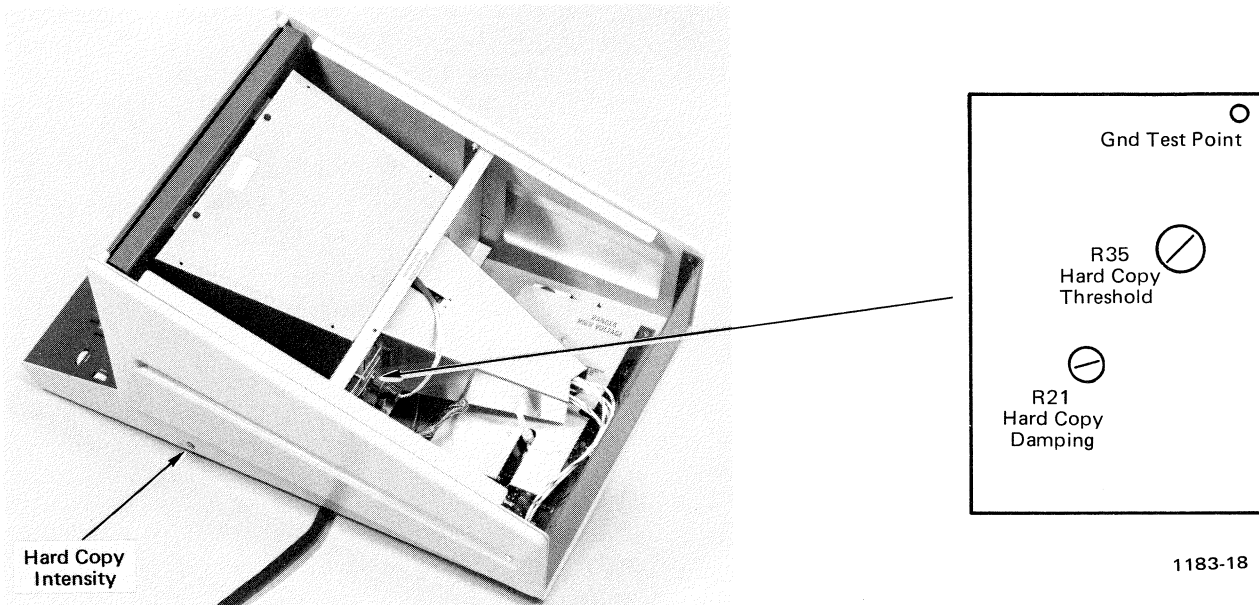
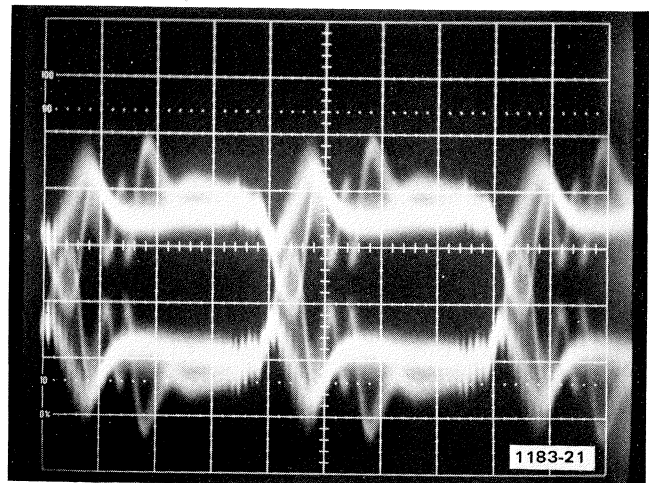

Fig. 4-13. Hard Copy Adjustment on Display Unit.
Fig. 4-16. Hard Copy Threshold Waveform; 0.2 V/division vertical, 0.5 V/division horizontal.
a. Turn the Hard Copy Intensity (side of Terminal display unit—Fig. 4-13) fully clockwise.
a. Set the test oscilloscope for 0.2 V/division and 0.5 μ s/division. Connect the channel 1 probe to TP32 on the Hard Copy TARSIG Amplifier board, attaching the probe ground lead to the ground test point (Fig. 4-13).
d. Preliminary adjustment. Adjust Hard Copy Damping (R21 on the Hard Copy TARSIG Amplifier board, Fig. 4-13) for maximum negative pulse amplitude with minimum ringing as in Fig. 4-15A.
b. Connect a probe from channel 2 of the oscilloscope to TP30 on the Hard Copy TARSIG Amplifier board (Fig. 4-13). Connect the probe ground lead to ground.
e. Press MAKE COPY and observe the oscilloscope display for a waveform as in Fig. 4-16. The channel 1 display (TP32) should be above the channel 2 display, and the written pulses should overlap for approximately 1/3 of the distance between the two traces. Ringing should remain well separated. (Trace separation will probably end up being between 0.4 and 0.8 V.)
f. Adjust Hard Copy Threshold (R35, Fig. 4-13) to obtain a display as in Fig. 4-16.